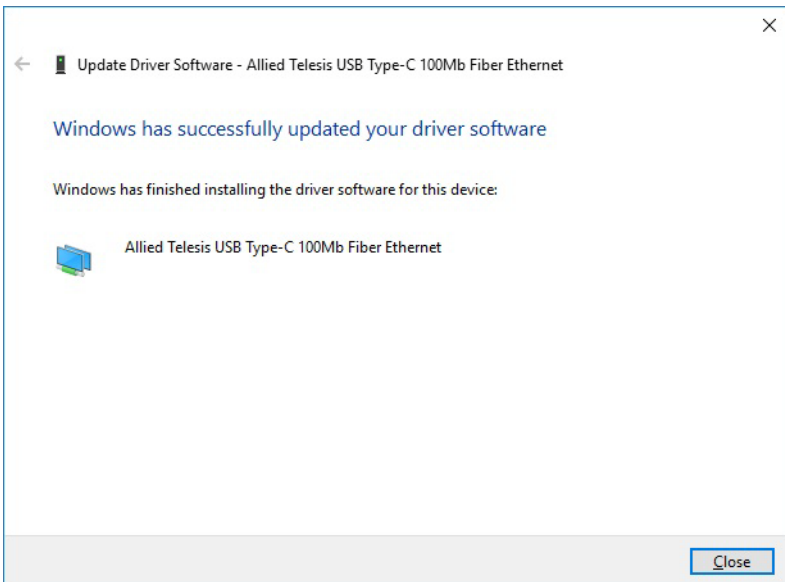

Figure 16. Progress Bar for Installing UMC Driver Software
9. After the installation is complete, click the Close button to exit the driver install process. Refer to Figure 16.